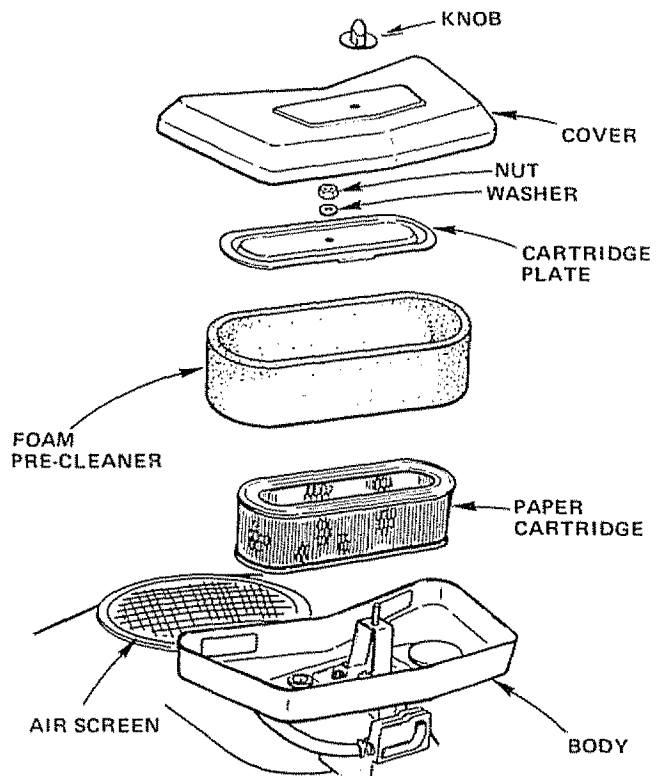

FIGURE 29
Air Screen (Fig. 29) must allow free-flow of air to prevent Engine damage from overheating. Clean with a wire brush, compressed air or water pressure to remove dirt, chaff, stubborn dried gum and fibers.
1. CLEAN AIR CLEANER FOAM PRE-CLEANER (FIG. 29)